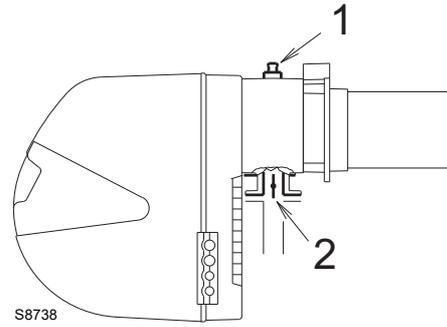

Fig. 26
Gas pressure measured at the test point 1)(Fig. 26), with:
Pressure loss at gas butterfly valve 2)(Fig. 26) with maximum opening: 90°.
- Subtract the combustion chamber pressure from the gas pressure measured at test point 1)(Fig. 26).
To know the required gas pressure at test point 1)(Fig. 26), set the maximum output required from the burner operation, then:
- Read, on the right (column 1) the socket pressure 1)(Fig. 26).
gas pressure at test point 1)(Fig. 26).